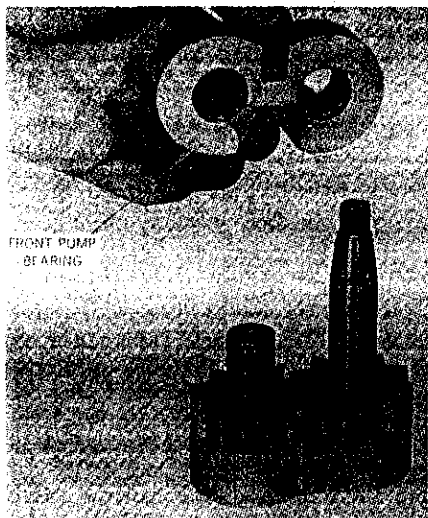

Fig. 422—Assembling pump gears and bearings.
Thoroughly clean all parts, air dry and then lubricate with hydraulic fluid prior to reassembly. Reassemble by reversing disassembly procedure using all new seals. Fig. 422 can be used as an assembly guide; the large notch in gear bearings must be toward the intake side of pump as shown in Fig. 420 and 421. Refer to Fig. 423 for early and late seal installation on rear cover for the independent PTO pump gear bearing. Alternately and evenly tighten the nuts on pump through bolts to a torque of 40-45 Ft.-Lbs. **NOTE:** Be sure the two dowel bolts are reinstalled in correct position as shown in Fig. 420 and Fig. 423. Install new washer (25) and bend tang of washer against gear retaining nut (24) after tightening the nut.